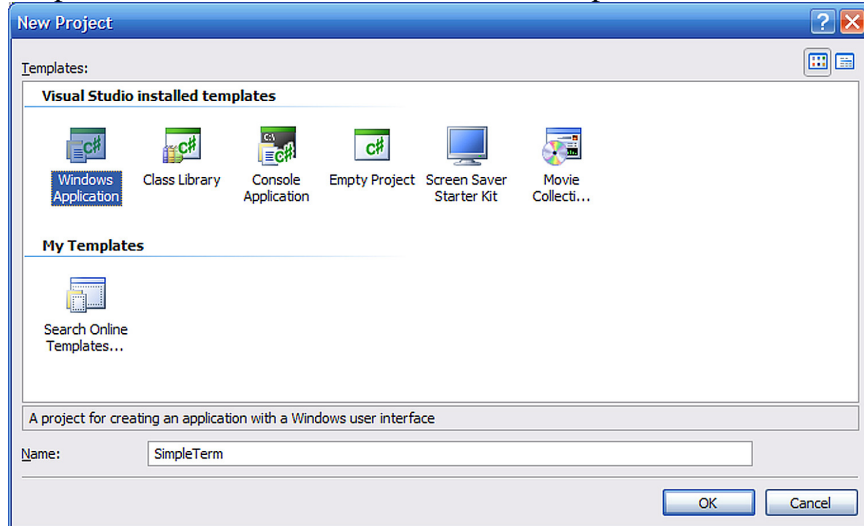

Figure 5: Select Windows Application
- In the 'New Project' form, highlight Windows Application and change the name to Simple Terminal and click the 'OK' button (Figure 5: Select Windows Application)